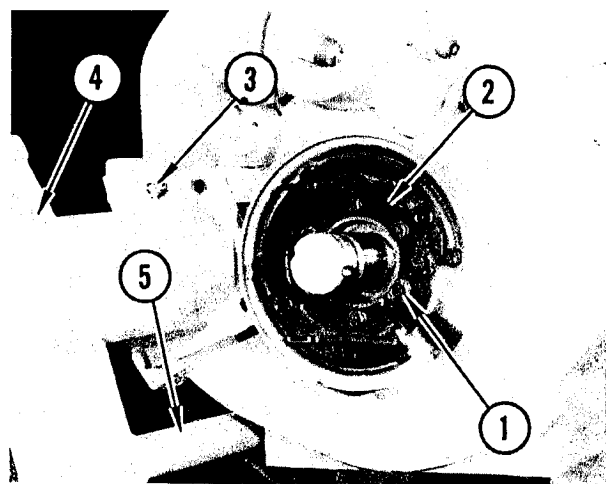

FIGURE 42. BRAKE BACKING PLATE REMOVAL
Refer to Figure 42. Remove six capscrews and lockwashers (1). Remove gear brake backing plate assembly (2). Remove three stud nuts and lockwashers (3) retaining shifter housing (4) to transmission cover.